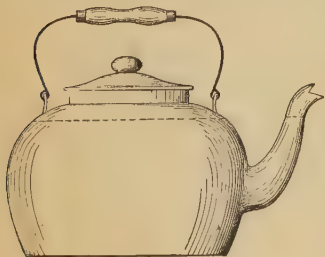

FIG. 54. — Water seeks its own level in a teakettle.
62. Levels of liquids in connecting vessels. Probably every one has observed that water stands at the same level in the spout of a teakettle as in the kettle itself (Fig. 54). In other words, **liquids seek their own level**, or the same liquid in any number of connecting vessels will have its free surface at the same level in each. This is to be expected from the fact that the pressure in a liquid depends upon the depth below the free surface. Thus if any point in the connecting portion between the two vessels were unequally far below the two surfaces, the pressures in either direction would not